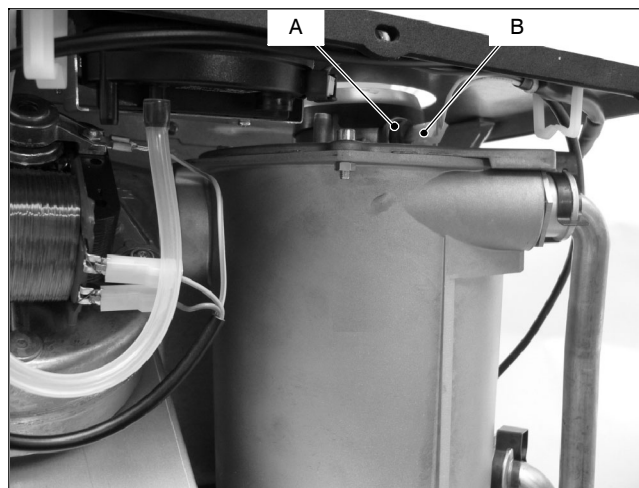

Fig. 3
The Flue temperature probe NTC A in Fig. 2 and Fig. 3 senses the temperature of the combustion products that flow through the condensing heat exchanger.
- 2 Disconnect the wires B from the Flue temperature probe NTC (Fig. 3).
- 3 Unscrew and remove the thermostat probe A (Fig. 3) from the condensing heat exchanger.